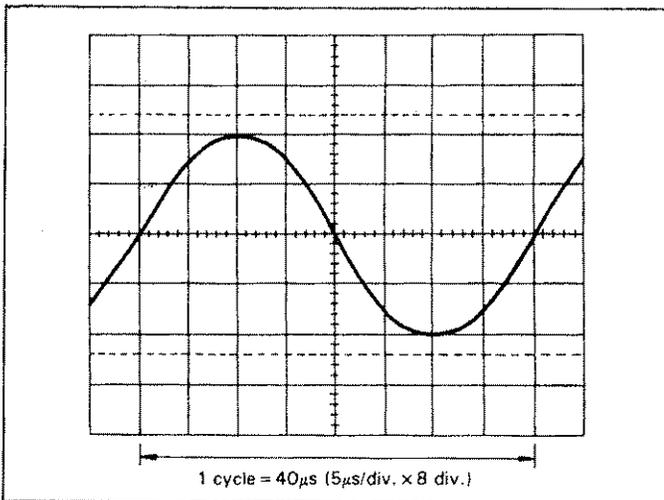

Fig. 9. Frequency Measurement.
(Refer to Fig. 9)
1. Set up the oscilloscope to display one cycle of waveform (see Fig. 9).
In the example shown in Fig. 9, a period of $40 \mu\text{s}$ is observed. Substituting this value into the above equation, the frequency is calculated as follows: